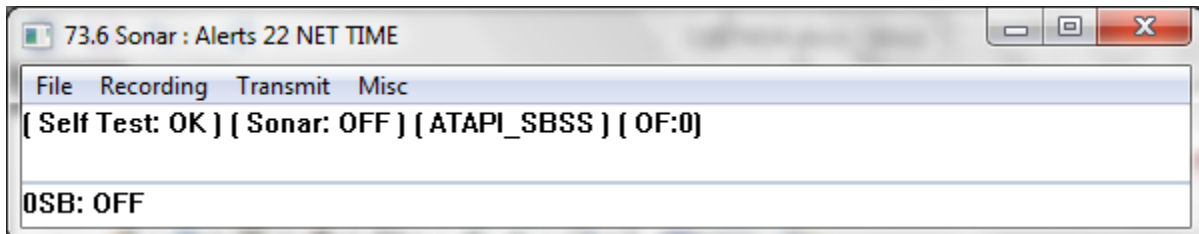

Figure 3-6: Successful Self-Test
2. SONAR.EXE runs a self-test, with an audible chirp, indicating the test passed. A successful test is shown in **FIGURE 3-6**.